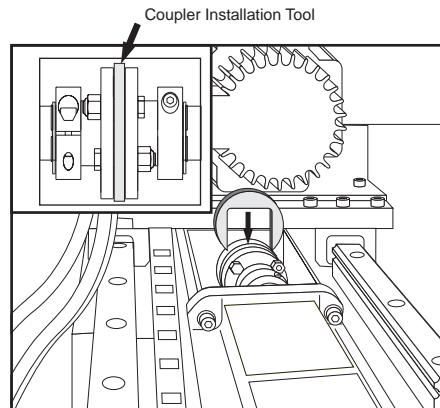

Figure 3.12-4
7. Carefully handle jog the X-axis until there is just enough room to install the coupler installation tool (P/N T-1451). Install the coupler installation tool into the coupler to prevent damage to the coupler when the motor is removed. (See figure 3.12-4)